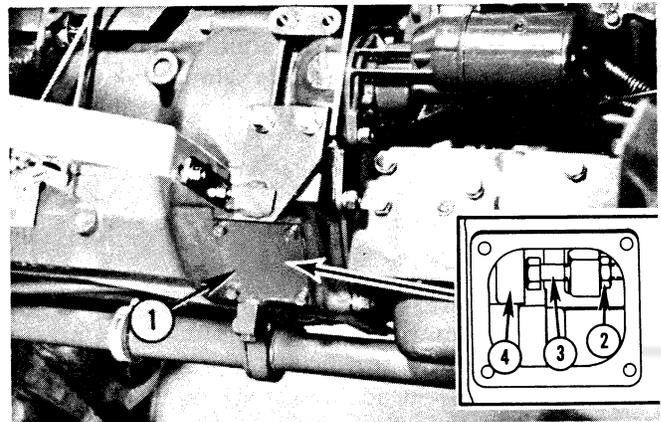

FIG. 87
FIG. 87: Remove cover plate, 1, from lower right side of clutch housing to gain access to PTO clutch adjusting bolts (3). Crank engine until one bolt shows. Loosen lock nut, 2, and adjust bolt, 3, until there is a gap of .040" (1.0 mm) between bolt head and main clutch pressure plate, 4. Tighten lock nut and repeat procedure for other two bolts. Replace cover.